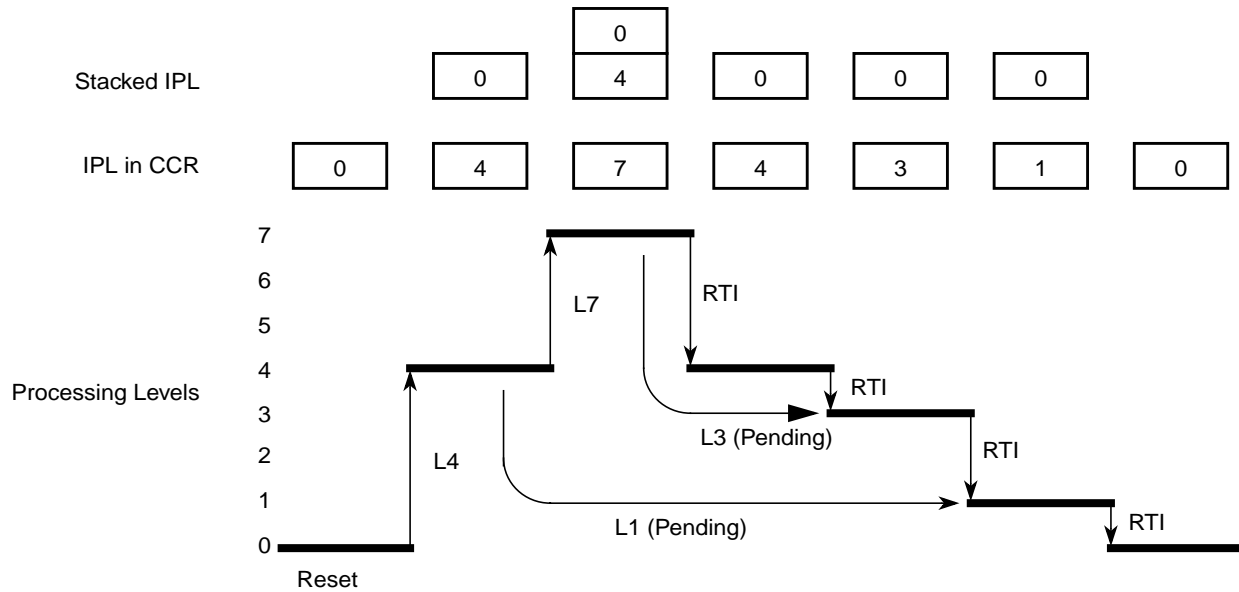

Figure 4-14. Interrupt Processing Example
- I bit maskable interrupt requests can be interrupted by an interrupt request with a higher priority, so that there can be up to seven nested I bit maskable interrupt requests at a time (refer to Figure 4-14 for an example using up to three nested interrupt requests).